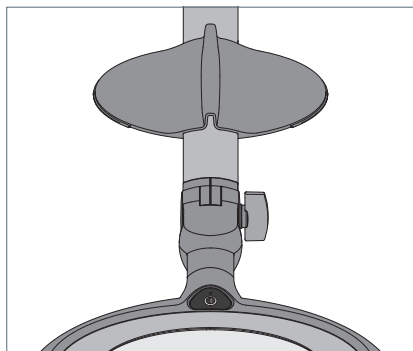

Fig. 4: Storing the magnifier cover.
- Clamp the magnifier cover to the luminaire support, see Fig. 4.